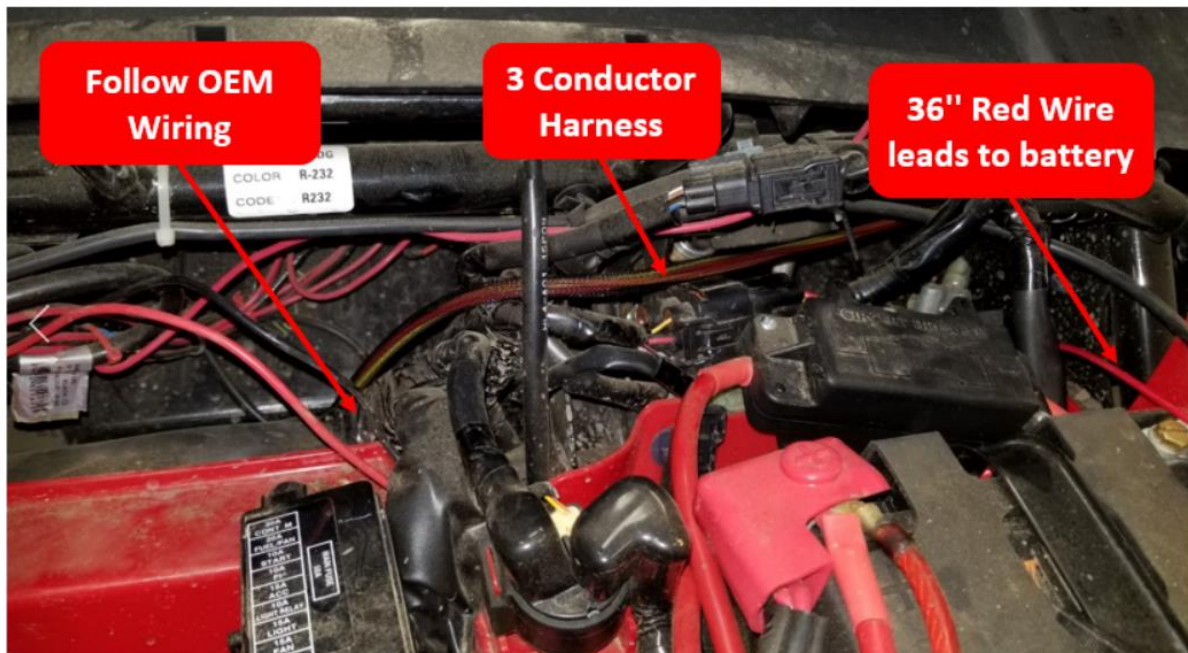

Figure 12
30. Route the 3 Conductor Wiring Harness and the 36" Red Wire to the battery compartment at the front of the vehicle. Route the 36" Red Wire to the battery but do not connect it. With the 3 Conductor Wiring Harness, follow the other OEM vehicle wiring harnesses through an opening in a rubber cover. Follow the OEM wires back to the engine compartment and then through the last of the 5/8" holes and into the storage compartment. Remove the zip tie. See Figure 12.